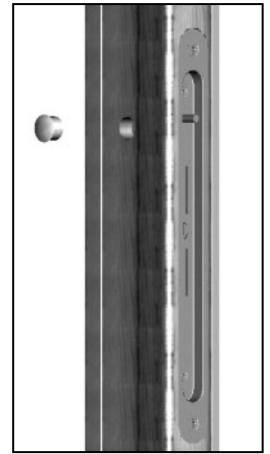

FIG. 22
- B) Plug access hole with the provided hole cap as shown in Fig. 22.